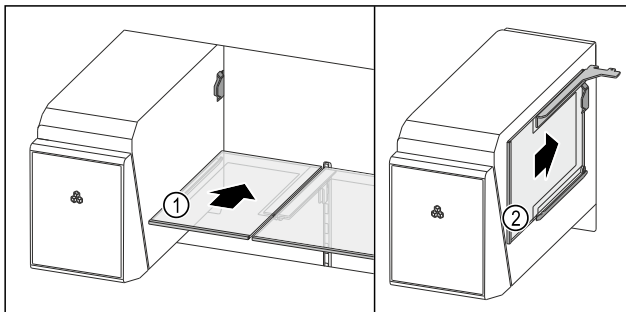

Fig. 132
- Install the shelf in the factory-default position Fig. 132 (1).
- Install the shelf in the position Fig. 132 (2) shown.